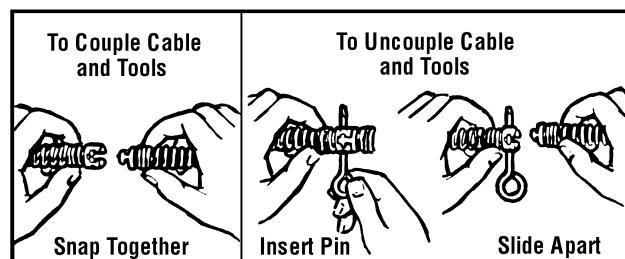

Figure 8 – Coupling and Uncoupling Rods and Tools
15. Couple rod to machine rod river assembly using RIDGID/Kollmann sectional rods with K-10 Speed Coupler (*Figure 8*).